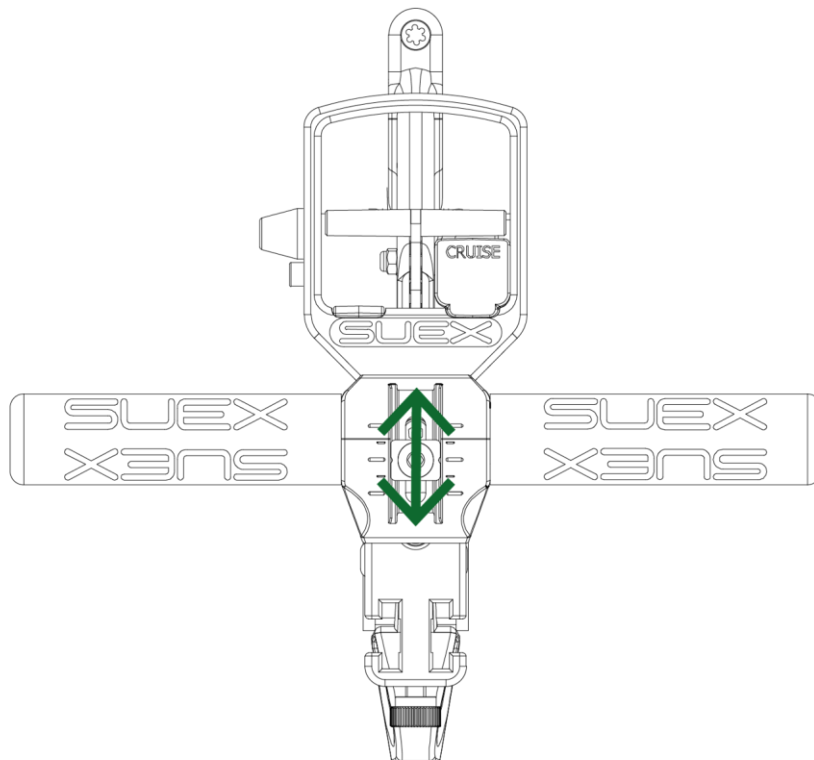

Fig 8 - Adjustment of handle position
- slide it downward to increase the distance from the trigger (for larger hand sizes))**Fig 8 - on p. 10**